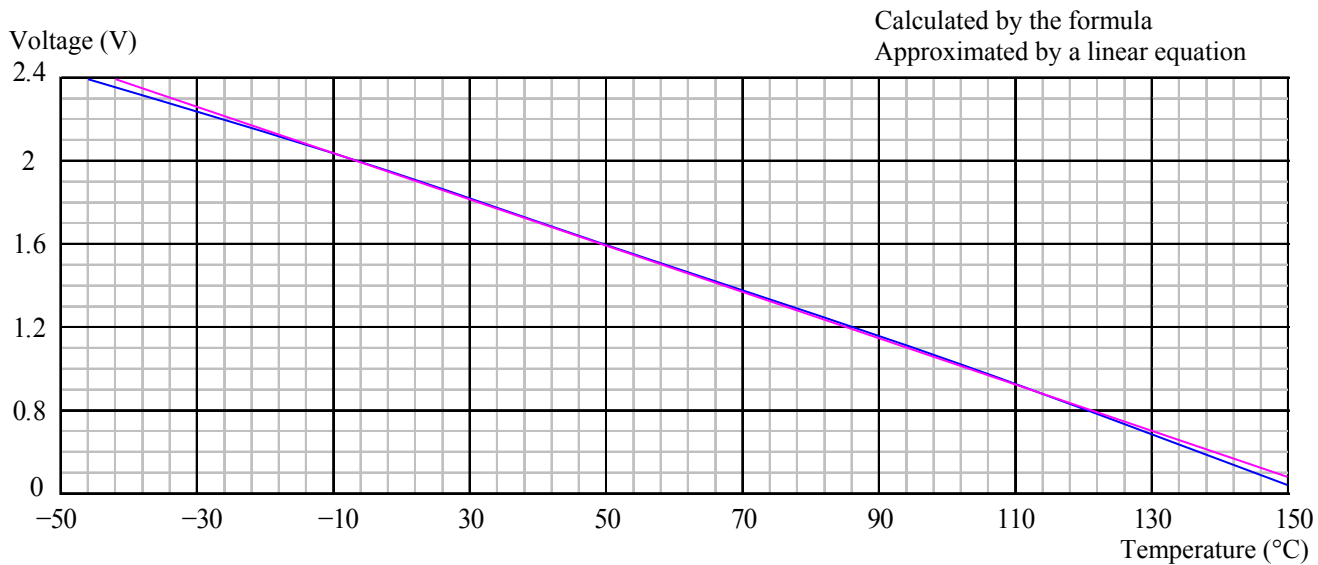

Figure 8. Controller Internal Temperature vs. TMPO Voltage
Within the most commonly used temperature range of between 0°C to 100°C, the maximum error occurs at about 1.5V, at which the temperature error between the calculated data by using the formula (1) and the approximated data obtained by using the linear equation (2) is about 0.4°C, with the linear data being a little lower. The curves of the 2 sets of the data are plotted in Figure 8.